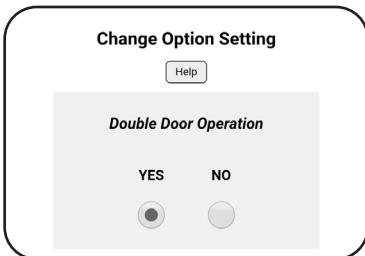

Figure 40
- Double Door Operation = **YES** (Figure 40)